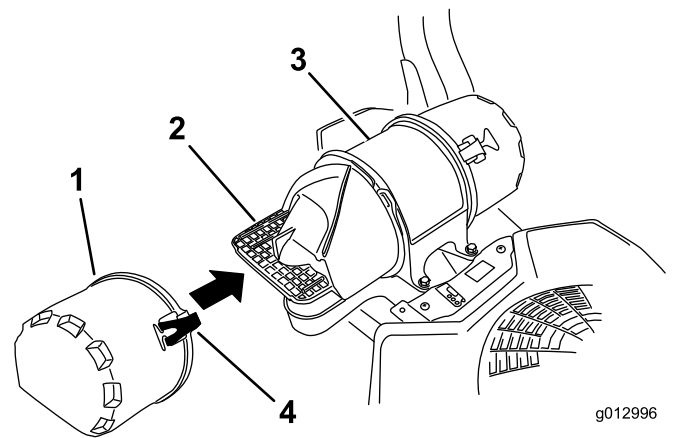

Figure 27
3. Release the latches on the air cleaner and pull the air-inlet cover off the air-cleaner body (Figure 27).
5. Install the air-inlet cover and secure it with the latches (Figure 27).
4. Install the air-cleaner cover and secure the latches (Figure 27).